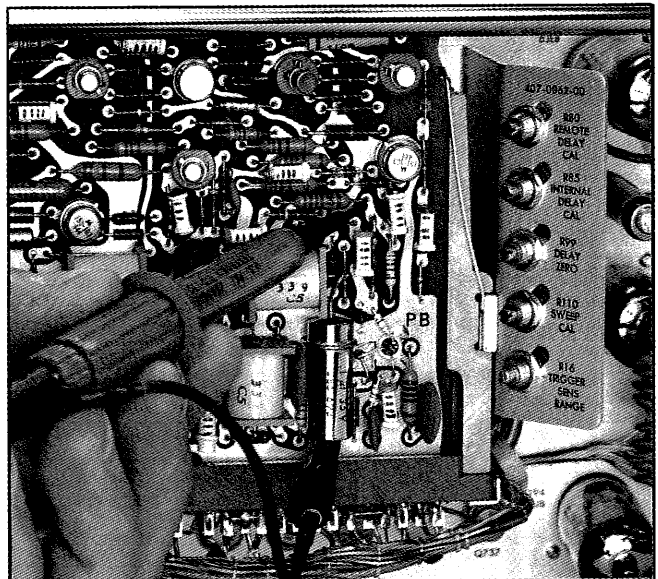

Fig. 5-6. Step 3 junction of L21-D22 and probe ground-clip location.
oscope and Type W as above. Attach the probe ground clip to the ground lead of C122 (connection shown in Fig. 5-6).
b. Touch the probe tip to the junction of D22-L21 (shown in Fig. 5-6) and obtain a stable display on the test oscilloscope similar to Fig. 5-7a.